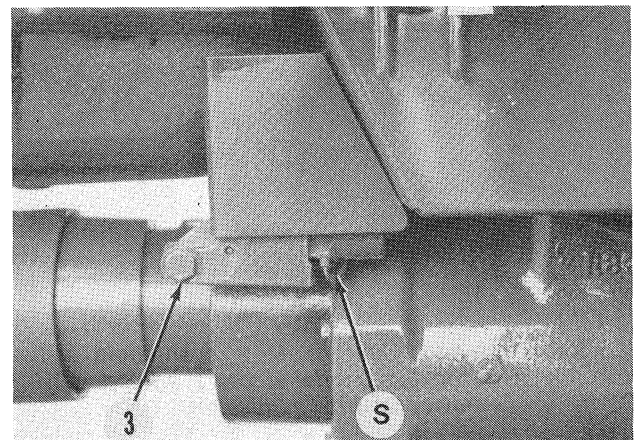
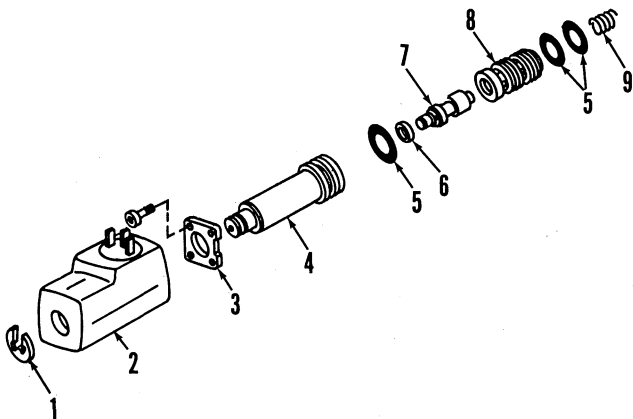
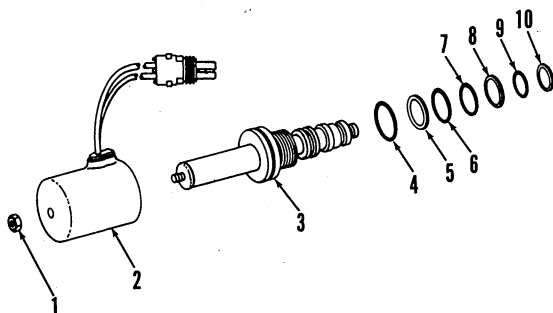

Fig. 5—Install a 300 psi (2000 kPa) gage at MFWD clutch test port (3) to check clutch hydraulic pressure. Refer to text.
Fig. 6—Exploded view of MFWD solenoid valve assembly used on early Power Shift tractors and all Quad-Range tractors.
Fig. 6A—Exploded view of MFWD solenoid valve assembly used on late model tractors equipped with Power Shift transmission.
stall another 300 psi (2000 kPa) pressure gage at MFWD clutch test port (3—Fig. 5). Note that MFWD test port may have standard or metric threads. If 5/8 inch wrench is used to remove plug, threads are standard. If a 3/4 inch wrench is used to remove plug, threads are metric. With engine running at 1000 rpm and MFWD switch "OFF," difference between system pressure and clutch pressure should not be more than 20 psi (140 kPa). If clutch pressure is low, the solenoid valve could be sticking or oil may be leaking past clutch shaft or piston sealing rings. With engine at 1000 rpm and MFWD switch "ON," there should be no pressure at clutch test port. If there is pressure to clutch unit, solenoid valve is defective.
6. To remove solenoid valve assembly (S—Fig. 5), disconnect wiring connector. Remove retaining ring or nut from end of electrical coil, then withdraw coil assembly (2—Fig. 6 or 6A). On late model tractors with Power Shift transmission, remove valve assembly (3—Fig. 6A) from clutch housing. On early model Power Shift tractors and all tractors equipped with Quad-Range transmission, remove screws securing retainer plate (3—Fig. 6) and pull insert (4) from housing. Remove valve spool (7), spring (9) and sleeve (8).